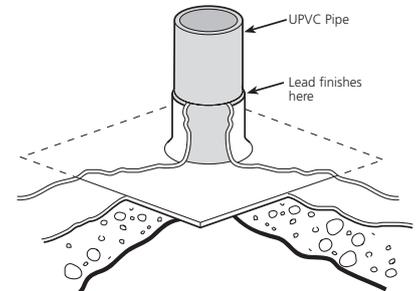

Fig.22a Steps 1/2
Step 1 – Position purpose-made weathering slate on open end of soil stack (Fig.22a)